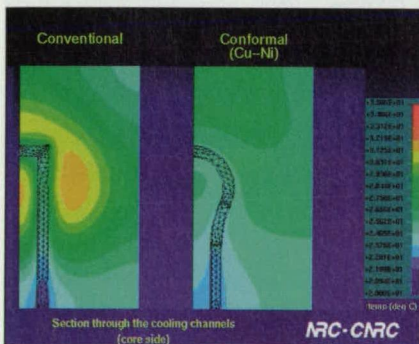

Figure 7: Core temperature distributions
Figure 7 is a pseudo-color FEA image of the distribution of temperature throughout the core sides of the two tools for: (1) the conventional H-13 tool with DCC shown on the left; and (2) the Ni-Cu tool with CCC shown on the right. The difference in the two temperature distributions is dramatic. The H-13 tool with DCC shows a hot spot to the left of the cooling channel (near the sprue) and another to the right of the channel. Conversely, the Ni-Cu tool with CCC shows an almost isothermal temperature distribution.